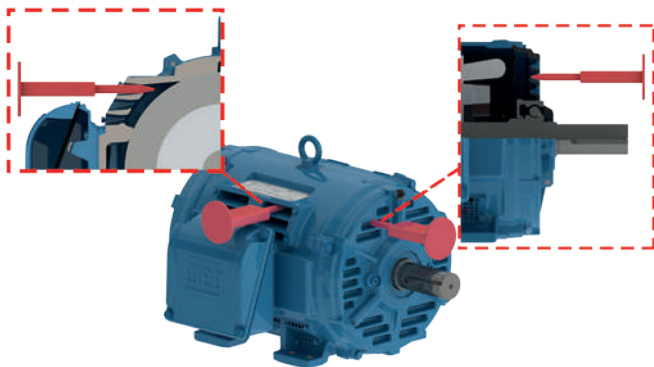

Figure 20 - IP degree of protection for the frame - first characteristic numeral.
- a) First characteristic numeral 2: machine protected against solid objects greater than 0.4724 in (12 mm) and contact with or approach to live or moving parts inside the enclosure by fingers or similar objects not exceeding 3.15 inch (80 mm) in length (Figure 20).